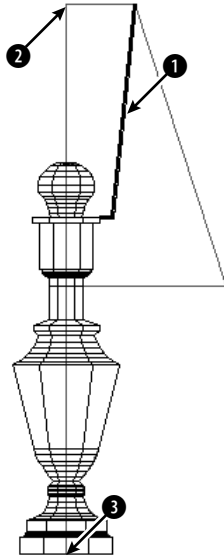

Figure 24-27: A partially completed lamp.
2. Save the file as `ab24-07.dwg` in your AutoCAD Bible folder. You see part of a lamp, as shown in Figure 24-27. Make sure that OSNAP is on. Set a running object snap for endpoint.
Select objects: *Select the support at 1 in Figure 24-27.*